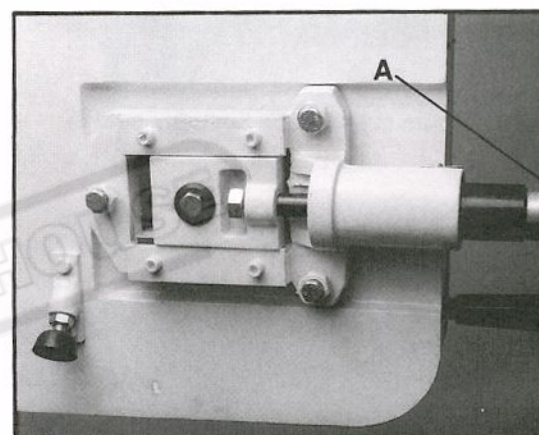

Fig. 6
5. Release blade tension by turning blade tensioning handwheel (A, Fig. 6) counter-clockwise until blade is free.